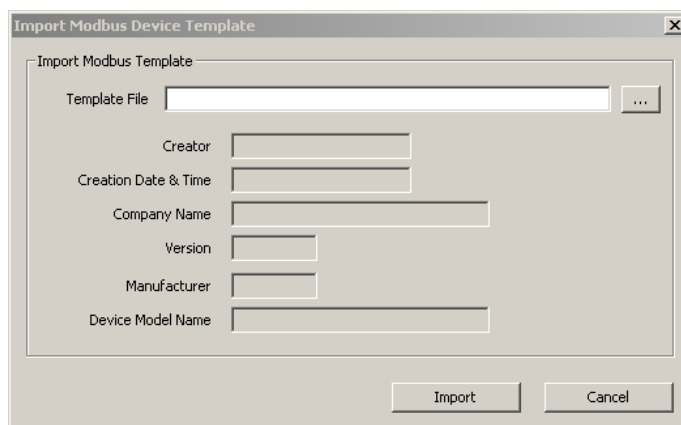

Figure 135 Import Device Template dialog.
2. This opens the **Import Modbus Device Template** dialog shown in Figure 135.